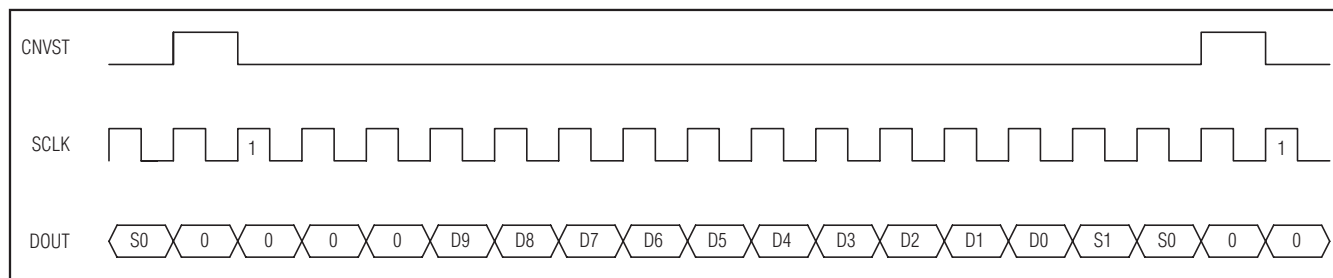

Figure 17. DSP Interface—Continuous Conversion
The MAX1076/MAX1078 can also be connected to the TMS320C54\_ by using the data transmit (DX) pin to drive CNVST and the CLKX generated internally to drive SCLK. A pullup resistor is required on the CNVST signal to keep it high when DX goes high impedance and 0001hex should be written to the DXR continuously for continuous conversions. The power-down modes may be entered by writing 00FFhex to the DXR (see Figures 17 and 18).
sions, idle CNVST high and pulse it low for the entire conversion. The ADSP21\_ \_ STCTL and SRCTL registers should be configured for late framing (LAFR = 1) and for an active-low frame (LTFS = 1, LRFS = 1) signal. This is also the best way to enter the power-down modes by setting the word length to 8 bits (SLEN = 1001). Connect the VL pin to the ADSP21\_ \_ supply voltage when the MAX1076/MAX1078 are operating with a supply voltage higher than the DSP supply voltage (see Figures 17 and 18).